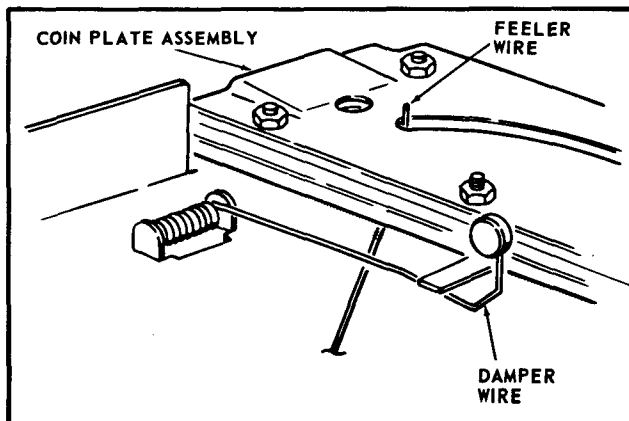

FIGURE 10
30. When the "L" shaped extension on the Feeler Wire is in line with the slot in the Coin Plate Assembly, rotate the Recorder Assembly into position in the Coin Mechanism. See Figure 10.